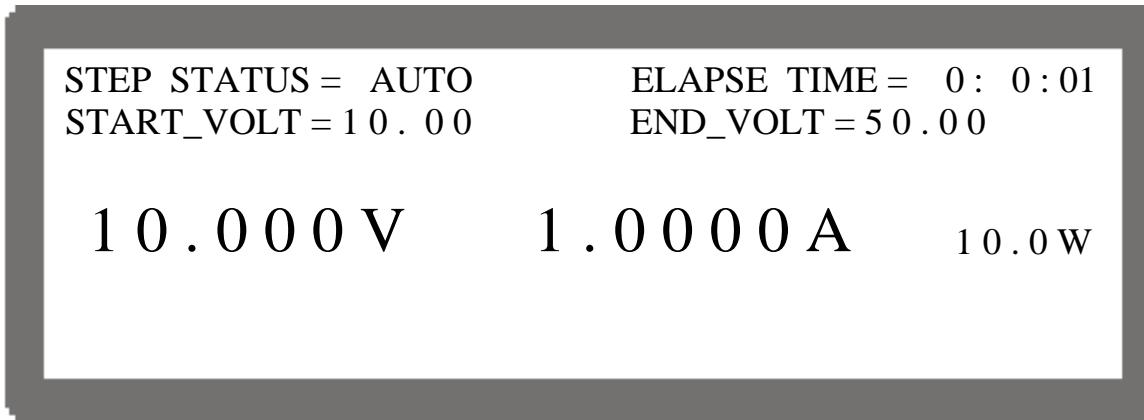

Figure 4-23
2. Press “**OUTPUT**” one more time to confirm the execution. It will skip to MAIN PAGE during execution as Figure 4-23 shows. To quit the execution, press “**EXIT**” can return to the MAIN PAGE window at standby.